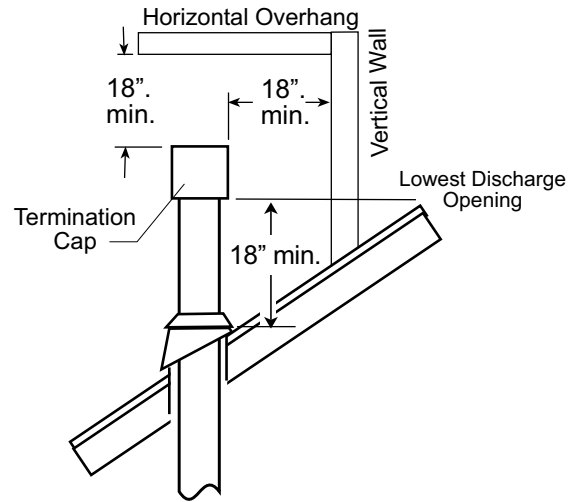

Figure 16.
- **Vent Terminus Clearance:** In no case shall any discharge opening on the cap be less than 18 in. (457 mm) vertically or horizontally from any roof surface or wall. See fig. 16.